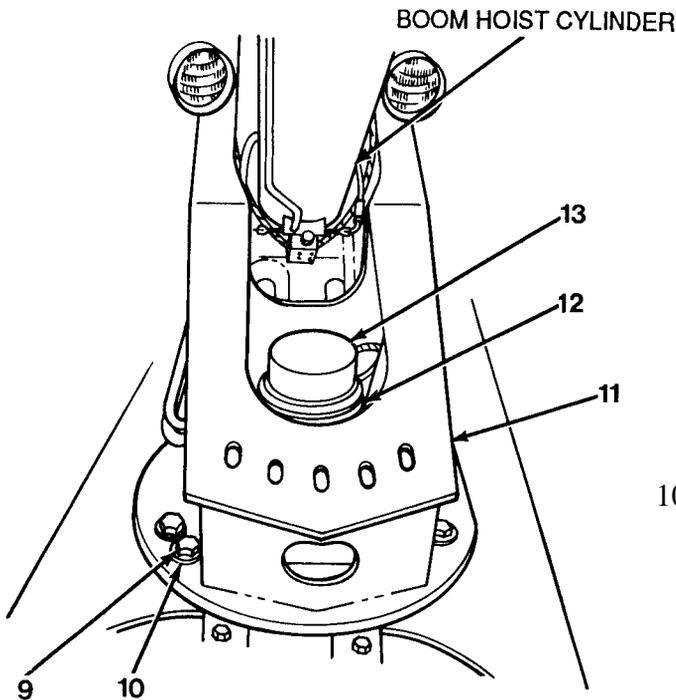

Figure 15-3
10. Use a lifting device on upperstructure (11) to support the weight. Remove 8 capscrews (9) and 16 washers (10, Figure 15-3) on outside of upperstructure (11).
1. Use a lifting device to lift upperstructure (11) to a height sufficient to clear rotary manifold (12) and electrical collector ring (13) and lower onto frame. Use wood block under boom hoist cylinder to protect electrical collector ring (13) and rotary manifold (12, Figure 15-3).
2. Install 8 capscrews (9) and 16 washers (10) on outside of upperstructure (11).